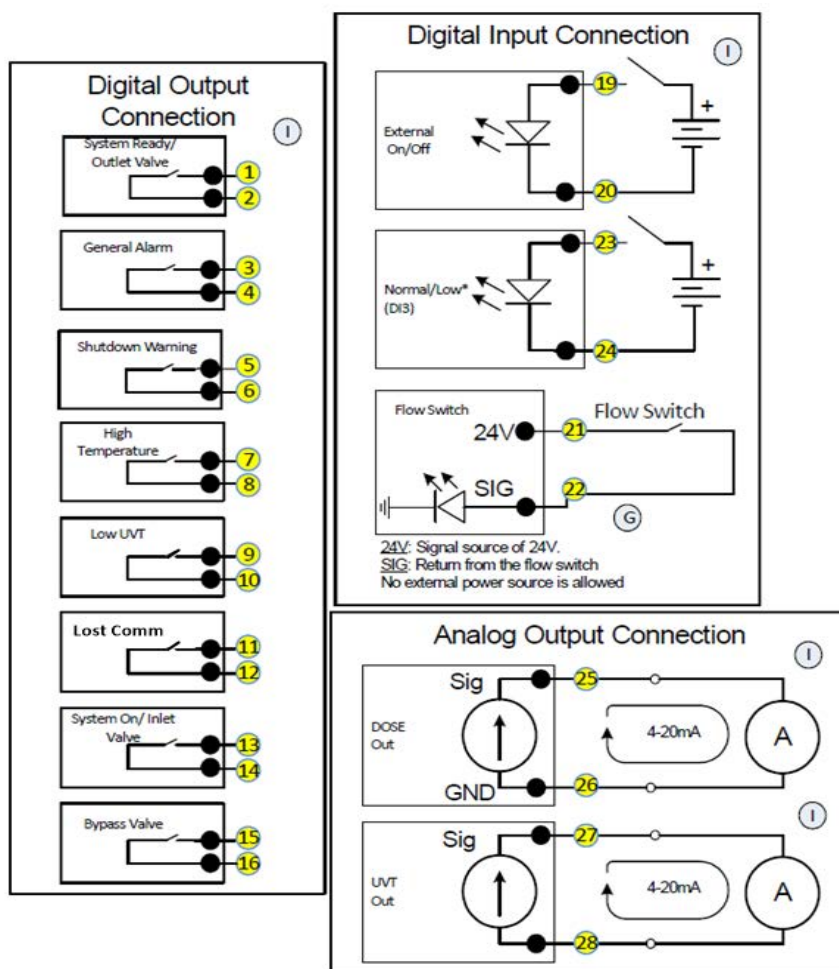

Figure 5-27: Digital and Analog Input and Output Connections
Step 1. Extend the Data cable connected to Connection Box #1, out to the **Control Module** and connect it to the following terminals on the RS485 port of the Control Module (**Figure 5-27**).